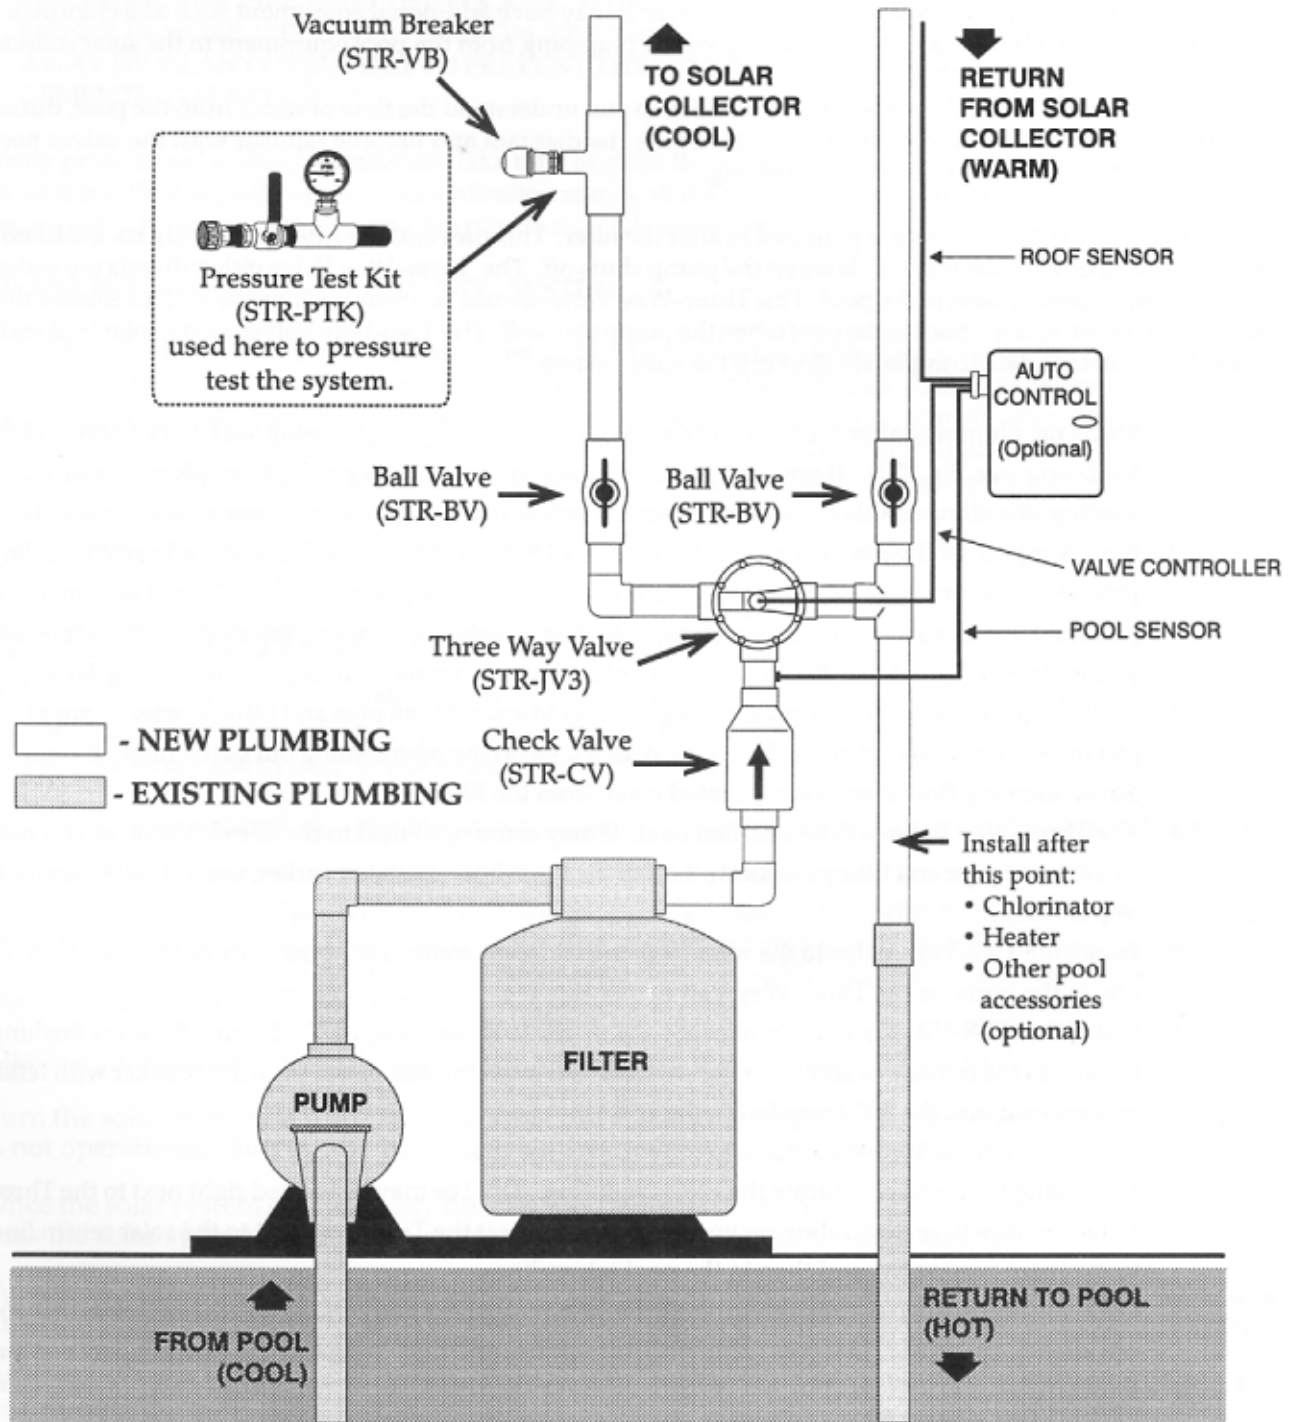

FIG 15.1
Fig 15.1 on page 15 shows how a typical SunStar Solar Pool Heating System is plumbed into existing pool plumbing. This drawing may not be just like every system you encounter. The feed and return plumbing on a solar system may be reversed, or it may have a different type of filter, or it may have additional equipment such as a chlorinator, pool cleaner, gas heater, etc. It may also have a long run of plumbing from the pool equipment to the solar collectors.
Whether the system is like this or not, Fig 15.1 will help you understand the flow of water from the pool, through the pump, filter, solar system and back to the pool. Study the diagram and become familiar with the valves needed to connect the solar collectors to existing plumbing.
1. Study the plumbing after the filter and decide where you are going to install the Check Valve and the PVC tee fitting (see Fig 15.1). If you have auxiliary equipment, you may need to re-plumb a portion of your existing plumbing so this equipment is located before or after the solar system as indicated in Fig 15.1.
2. Cut the pipe after the filter where you have decided to locate the Check Valve and where your solar return pipe will attach to your existing pool return line. If your pool plumbing is 1-1/2" and you are running 2" plumbing to your solar system, you should be using 2" valves and piping for all of your new plumbing, so you will need (2) 2"x1-1/2" Reducer Bushings to adapt your new 2" fittings to the existing 1-1/2" pipe.
6. Install the {STR-VB} Vacuum Breaker about 4' up the feed line using a PVC Tee and Reducer Bushing. Face the Tee to the outside as shown in Figure 15.1. Wrap the threads of the Vacuum Breaker with teflon tape and screw it into the 3/4" threaded Reducer Bushing.
- d. Locate Vacuum Breaker on feed line as shown on page 15, (Fig. 15.1) and put an (STR-EC) End Cap at the end of the top header where the vacuum breaker was previously located.